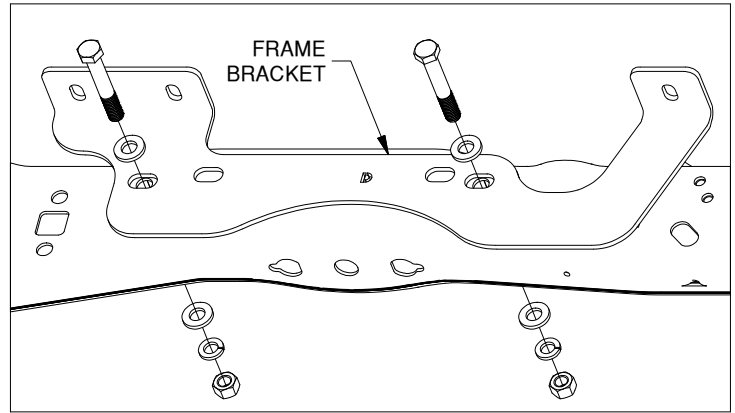

Figure C1: View looking into driver side wheel well.
- 1. Install the frame brackets.** Locate the driver and passenger side frame brackets, the large rectangle washer, the frame bracket spacer, four 5/8" x 4" cap screws, seven 5/8" washers, four 5/8" lock washers, and four 5/8" finish nuts. **Depending on the model year of the truck different holes in the brackets will be utilized and the frame bracket spacer will have a different installation orientation,** see Figures C1-C4 to identify the correct holes, hardware, and spacer orientation. On the outside of the frame, pass the flat washers, and large rectangle washer over the cap screws, then place the cap screws through the frame brackets and the frame. Secure the frame brackets on the inside of the frame with 5/8" flat washers, 5/8" lock washers, and 5/8" finish nuts. Do not tighten the mounting hardware at this time.